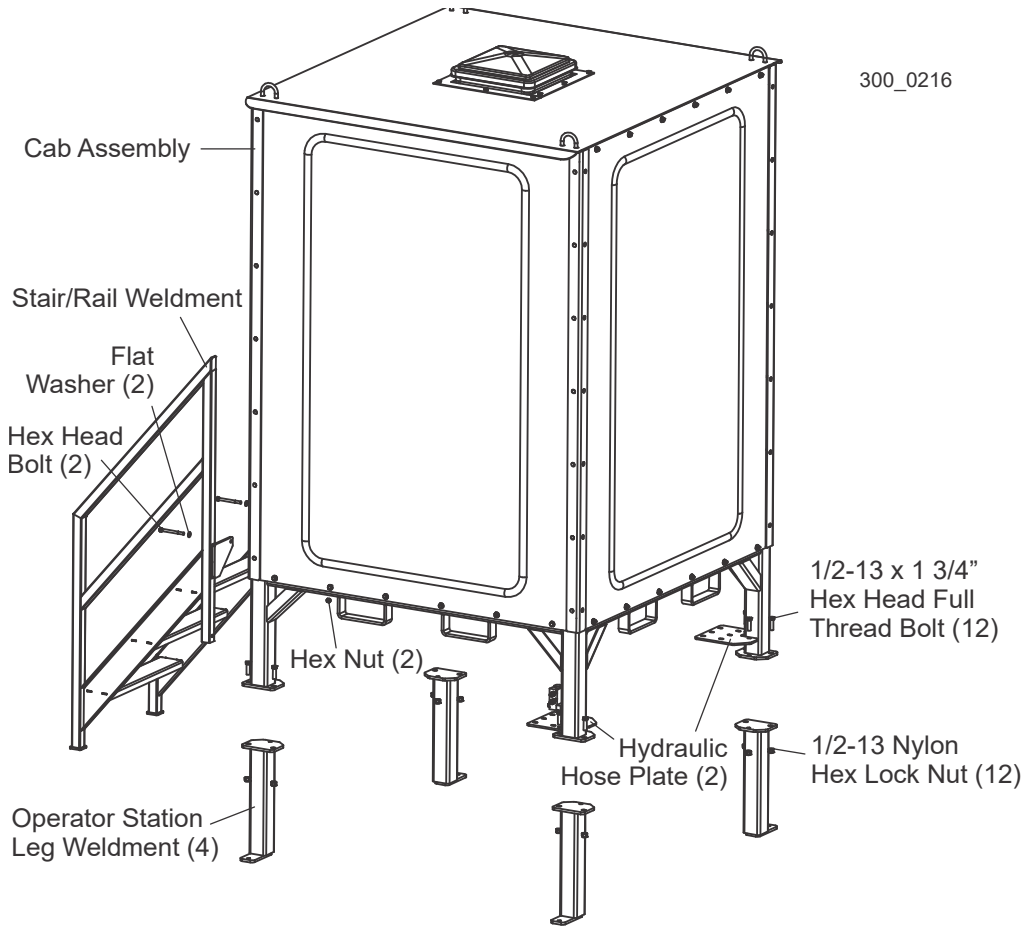

FIG. 3-1
2. Install the 4 leg weldments to the operator station using the hardware. (See FIG. 3-1.)
4. Install the stair/rail weldment to the station deck using the hardware. (See FIG. 3-1.)
See Figure 3-1.